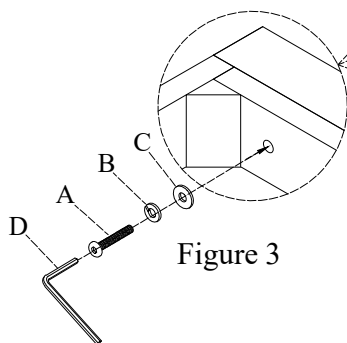

Figure 3
4. Attach the bottom frame to the leg frames using Bolt (A), Lock Washer (B) and Flat Washer (C) and tighten with the Allen Wrench (D). As Shown in Figure 3.